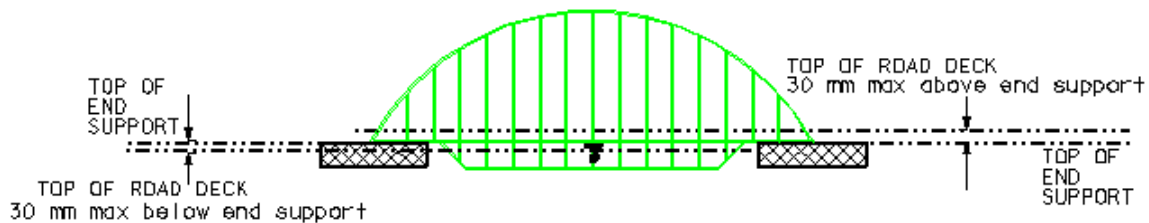

Figure 4: Bridge Deck Vertical Position
- ◆ All parts of the unloaded solid road deck must be within 30 mm of a horizontal line drawn between the top surfaces of the end supports (see Figure 4).